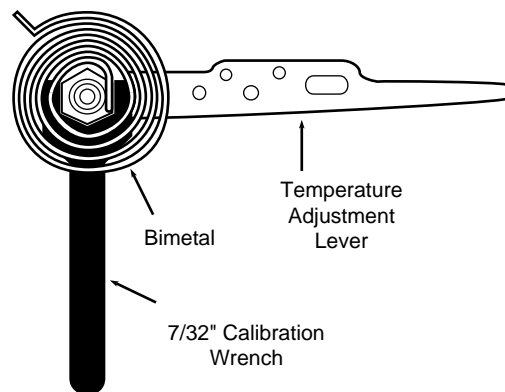

Figure 12. Calibrating Thermostat
3. Remove thermostat cover. Slip 7/32" wrench onto hex nut beneath bimetal. While holding temperature adjustment lever stationary, turn hex nut clockwise until mercury shifts to right end of tube (see Fig. 12).
7. Slip $\frac{7}{32}$ " wrench onto hex nut. While holding temperature adjustment lever stationary, turn hex nut counter-clockwise until mercury just barely shifts to left end of the tube (see Fig. 12).